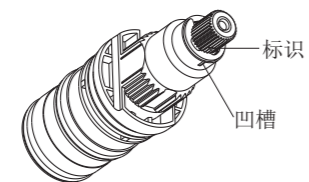

Fig.5
**注意:** 确保拆卸、安装过程中不要转动温控阀轴。如不小心转动了阀轴,要调整阀轴使外齿上的标识与相邻的塑料套上的凹槽对齐(Fig.5),或者按前述方法进行调整。
**NOTE:** Do not turn the cartridge when reinstalling it. If you turned it accidentally, you should adjust it and be sure that the mark is correctly in line with the groove (Fig.5), or readjust as per the steps of verification and setting.